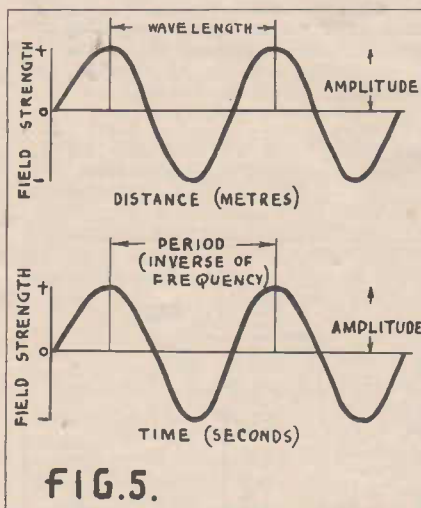

Figure 3.—The top curve represents a wave in space at a given instant, while that below represents a wave in space at a fixed position.
Figure 3.—The circuit referred to in question 4, which asks candidates to name at least five errors in it and to describe what the effect would be if each error existed singly in a receiver.
A.: The answer to this popular question was published in the February issue, p. 36 (8).
4. Name at least five errors in the following receiver circuit drawing, and describe what the effect would be if each fault existed singly on a receiver wired to conform with the drawing (see fig. 3):